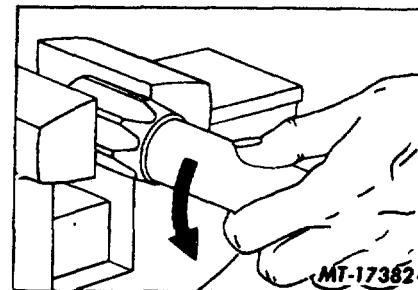

Fig. 3
6. Screw end of new hose into socket until hose bottoms in fitting (turn hose counterclockwise). Then back off hose 1/4 turn (Fig. 3).